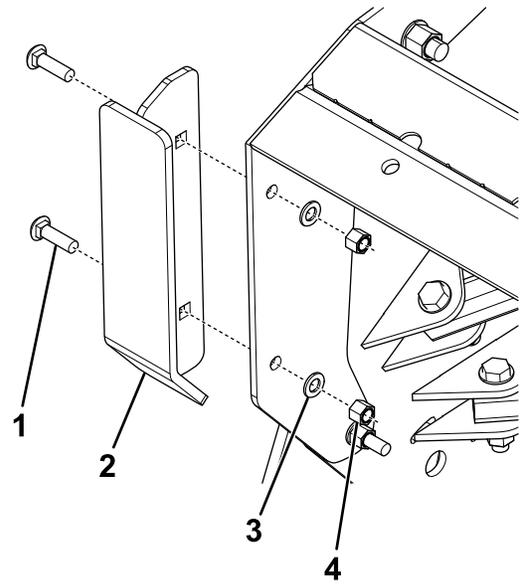

Figure 5
- Secure the plow shoes to the blade sections using 2 bolts (1/2 x 1-3/4 inches), 2 washers (1/2 inch), and 2 locknuts (1/2 inch) as shown in Figure 5.